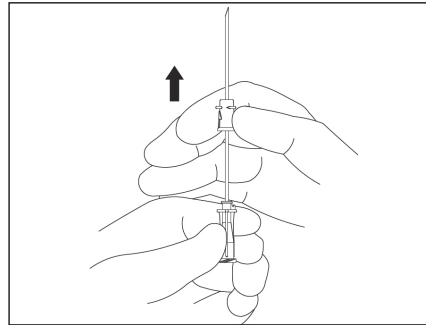

Figure 17
- Grasp clear clip housing, which houses the metal safety clip, with your free hand. Advance the clip housing forward along the safety introducer needle toward needle bevel (refer to Figure 17).